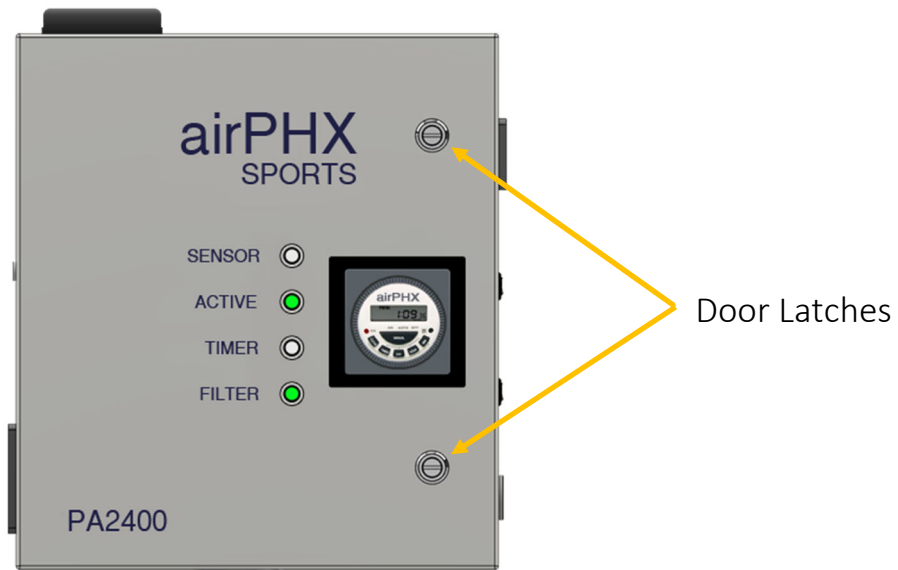

Fig 1
2. Using a large flat blade screwdriver, turn the two latches located on the front door of the PA 2400 counterclockwise a quarter of a turn to open the unit, refer to fig 1.